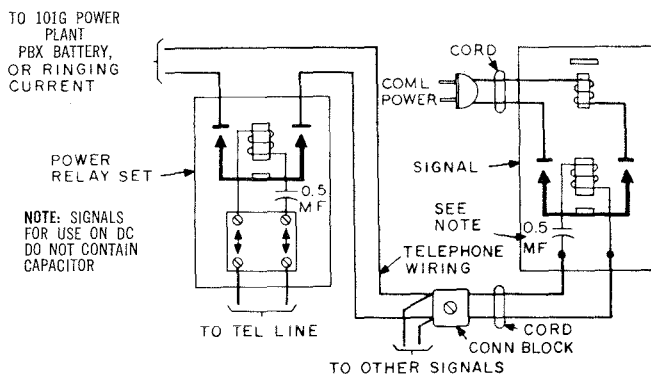

Fig. 3—Multiple Signal Connections
2.03 Several signals may be connected as shown in Fig. 3. This has the advantage of only one ringing bridge on the telephone line for several auxiliary signals. Special commercial power wiring is not needed between the relay set and the signals.